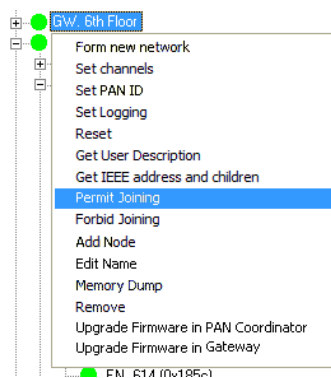

Figure 22
1. To be able to join the thermostat to the gateway or router, it is first necessary to permit joining on the gateway or router. This is done in the SystemMonitor, *SysMon*; to open this, double click on **SysMon.exe** in the software installation folder and log on at **File/Log on**. In SysMon, choose **View/ZigBee** to see the ZigBee network. Right click on the designated gateway/router in the **ZigBee Network** dialog and select **Permit Joining** in the right-click menu; see Figure 22.